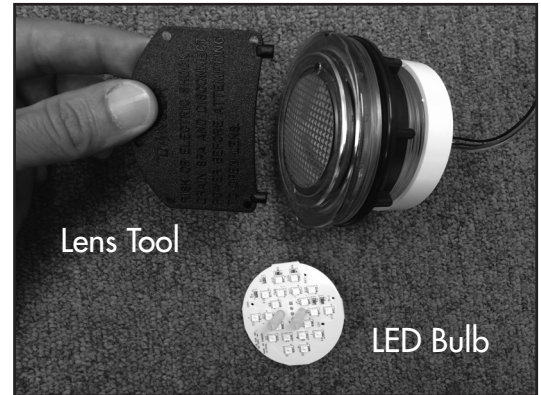

Figure 9
3. Open the lens of the fixture using ONLY the proper tool provided for that purpose (see Figure 9). Do not attempt to remove the lens without the provided tool.